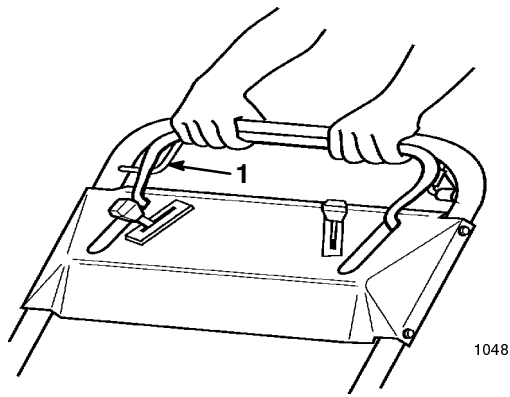

Figure 15
3. To operate the self-propel drive, squeeze the self-propel drive bail against the handle and hold it (Fig. 15).